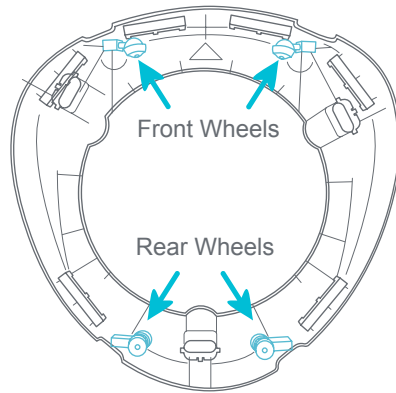

Fig. 7a
- 7 • Locate the two front wheels under the base shown on the diagram (Fig. 7a).
- 8 • Locate the two rear wheels on the diagram (Fig. 7a).